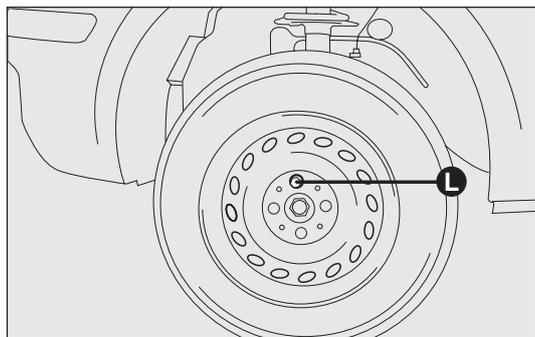

fig. 148
- ❑ for versions with hub caps, remove the cap after unscrewing the 3 fastening bolts and then unscrew the fourth bolt L-fig. 148 and remove the wheel;